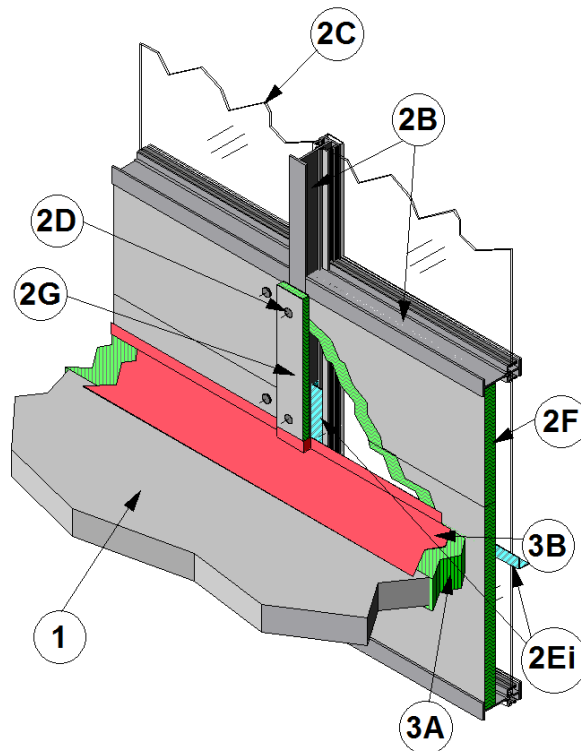

FIGURE 1 – Perimeter Fire Barrier System with Angle Reinforcement
- i. **Reinforcing Angle:** (See Figure 1) Mount a min. 1-1/2 × 1-1/2 in., 20 GA galvanized, steel angle to the vertical framing members so that the vertical leg serves as a backer to the exterior face of the curtain wall insulation (Item 2F) and the horizontal leg extends away from the curtain wall insulation (Item 2F) and locate at the centerline of the perimeter joint protection (Item 3). Size the angle 8 in. longer than the span between the interior edges of the vertical framing members and form the angle so that it has a 4 in. vertical leg on each end. Secure the 4 in. vertical leg to the vertical framing member on each side with three, No. 10, steel, self-tapping, sheet metal screws placed in a triangular fashion with a max. spacing of 2 in. oc.